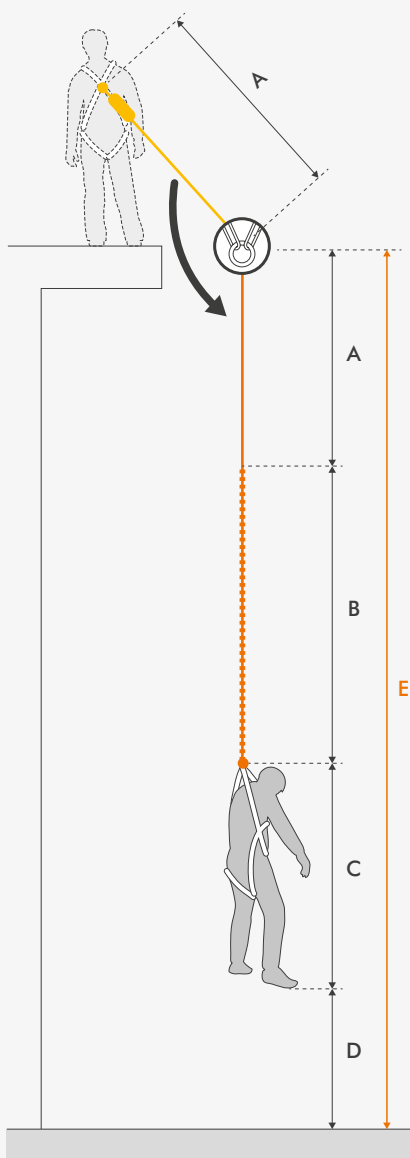

Fig. 1
- Fig. 1 / Energy absorber with integrated lanyard EN 355**